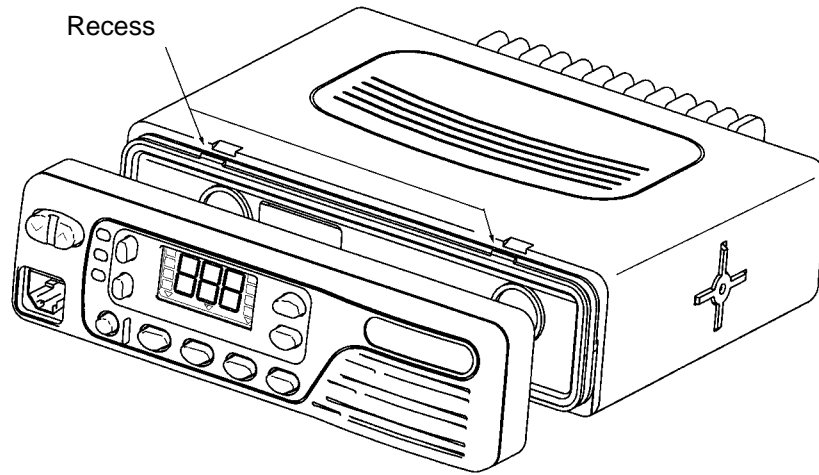

Figure 3-5 Control Head Replacement.
3. Press the control head onto the radio chassis until the protruding tabs on the chassis snap into the recesses inside the control housing, see Figure 3-5.